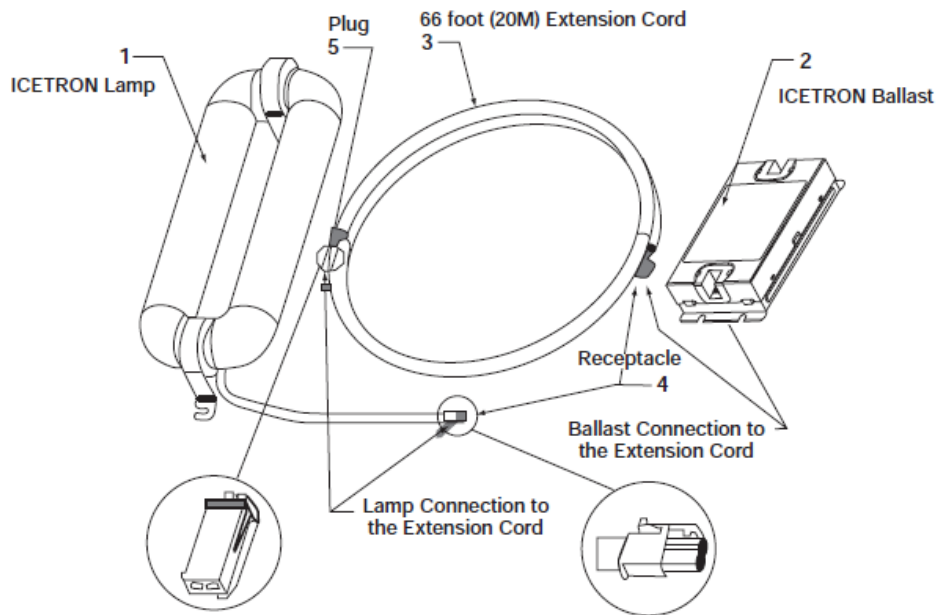

Figure 27: Remote Mounting
The ICETRON lamp (1) and ballast (2) can be remote mounted from each other using the specified remote mounting cabling (see Figure 27). The ICETRON QUICKTRONIC ballast will operate a lamp with a special high voltage cable (3) in conduit up to 66 feet (20 meters)* long as specified below. Only this cable is approved for operation with the ICETRON QUICKTRONIC system. Use of an unapproved cable voids the warranty.